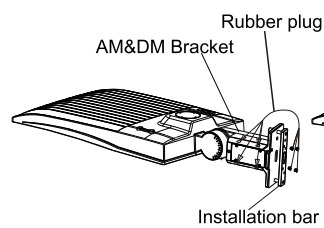

Figure 17
Step 1: Remove the four bolts from A&D bracket, remove the four rubber plugs from installation bar, put the four rubber plugs on the place where the four bolts were previously placed on the bracket for waterproof purpose(Figure 17)